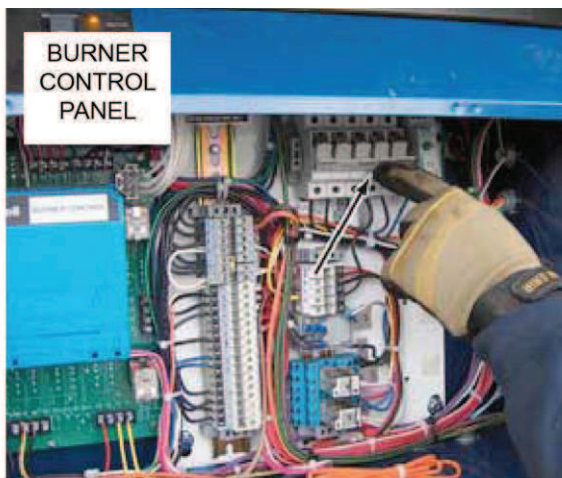

FIGURE 23 - OPEN FUSE DISCONNECTS
1. Open the fuse disconnects before working on burner as shown in *Figure 23 on page 35*.